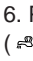

Fig. 38
4. Press the "-" Temperature Control Button to change this to "20" (Fig. 38), with the "0" indicating that the pre-heat is switched off. One minute after the parameter has been set the display will revert to normal operation.